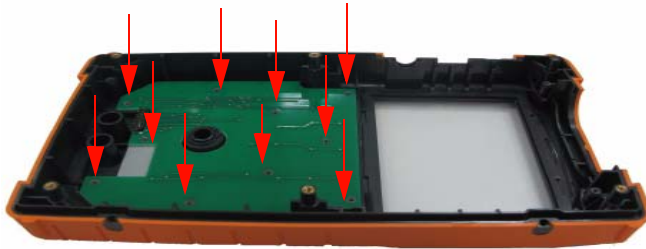

Figure 8-11 Remove the ten screws from the front cover
- 2 Loosen the screws as pointed in Figure 8-11 below to remove the keypad interface board.